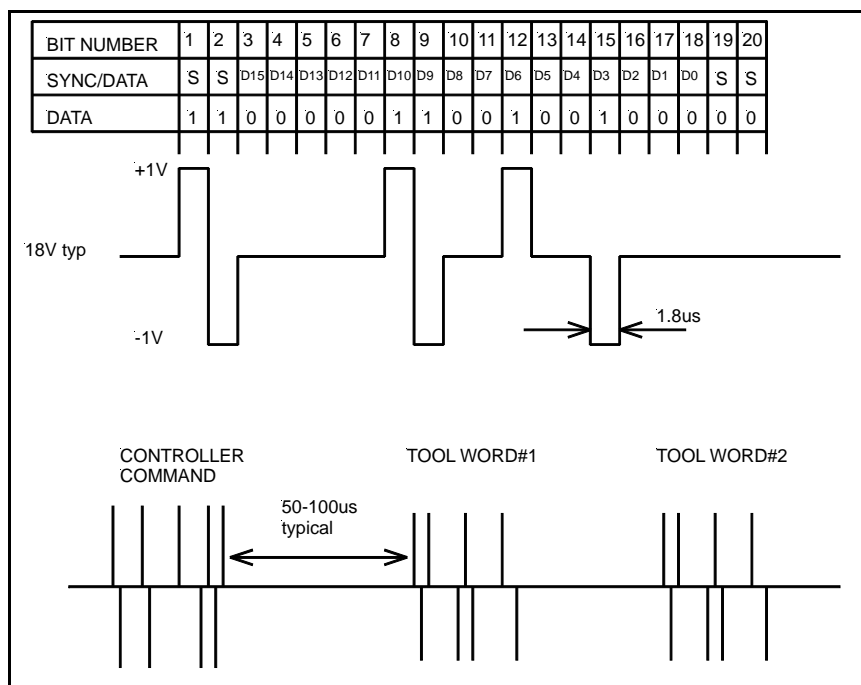

Figure 6.1 Ultrawire™ Signal Shape example
- 5 Check grub screws (3x item 4) are tight.
- 4 With an oscilloscope, check line for +1V and -1V, 2µS pulses. Make sure to check tool pulses not those from the controller which occur first, see Figure 6.1.